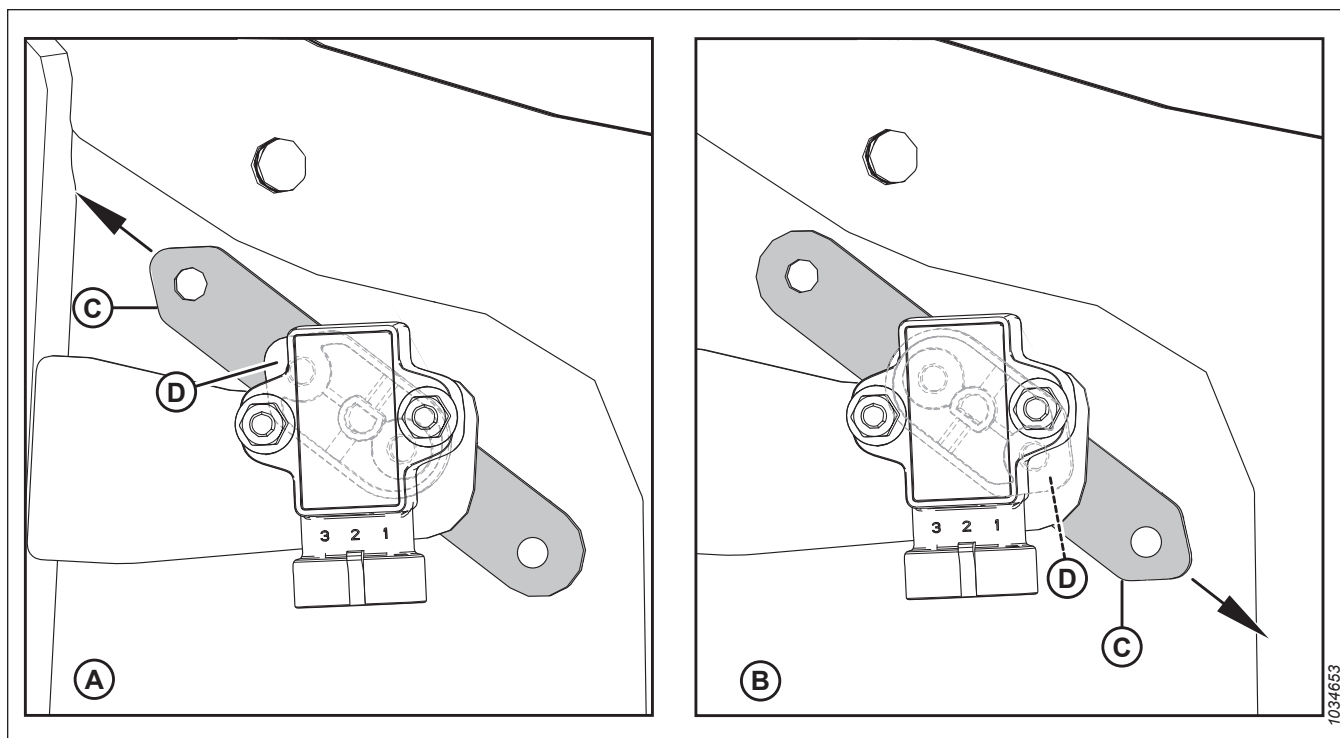

Figure 3.44: Sensor Arm/Pointer Configurations
3. Check that sensor arm (C) and pointer (D) are configured properly for your combine. For instructions, refer to Figure 3.44, page 50.